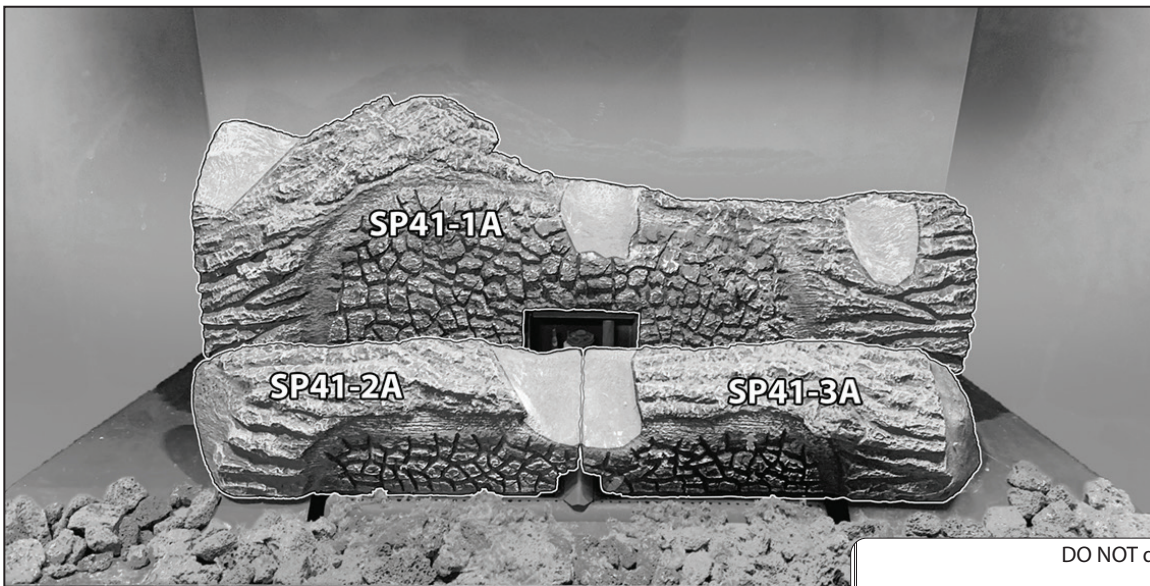

FIGURE 8.1 Base Logs
3. Install (3) AAA batteries (included in the components packet) in the remote control battery bay.
5. Connect the fan to the AUX 300 control module (FIGURE 8.1, page 31).